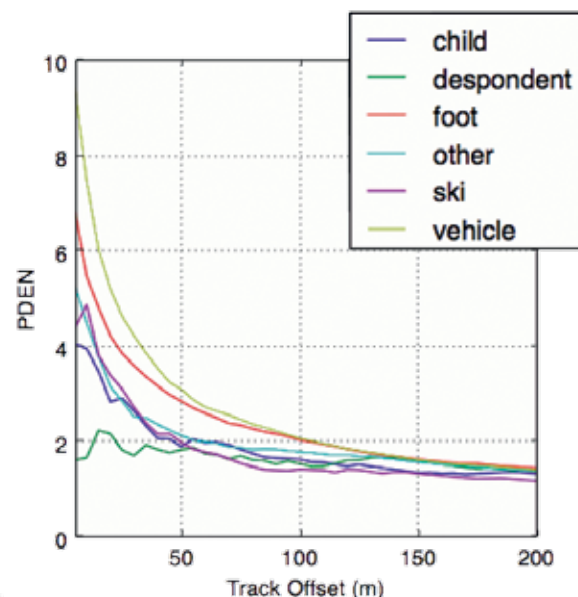

Figure 4: Cumulative road and trail PDEN, by subject category, backcountry incidents
Each incident has an ISRID-provided subject category, such as hiker or hunter. To keep sample sizes large, similar categories were evaluated together as category groups. At 622 incidents, the largest backcountry category group is hikers, hunters, gatherers and runners, who roughly represent able-minded adults traveling on foot in non-technical terrain; they are collectively referred to as the foot category group. The next largest category group is vehicles, with 297 backcountry incidents, followed by skiers and snowboarders (79), children (55) and despondents (47). All remaining category groups comprise 355 backcountry incidents. As Figure 4 shows, PDEN for roads and trails varied by category group, with vehicles having the highest PDEN and despondent individuals having the lowest. It also varied by subject status (Figure 5), with uninjured subjects having a higher road and trail PDEN than injured ones.